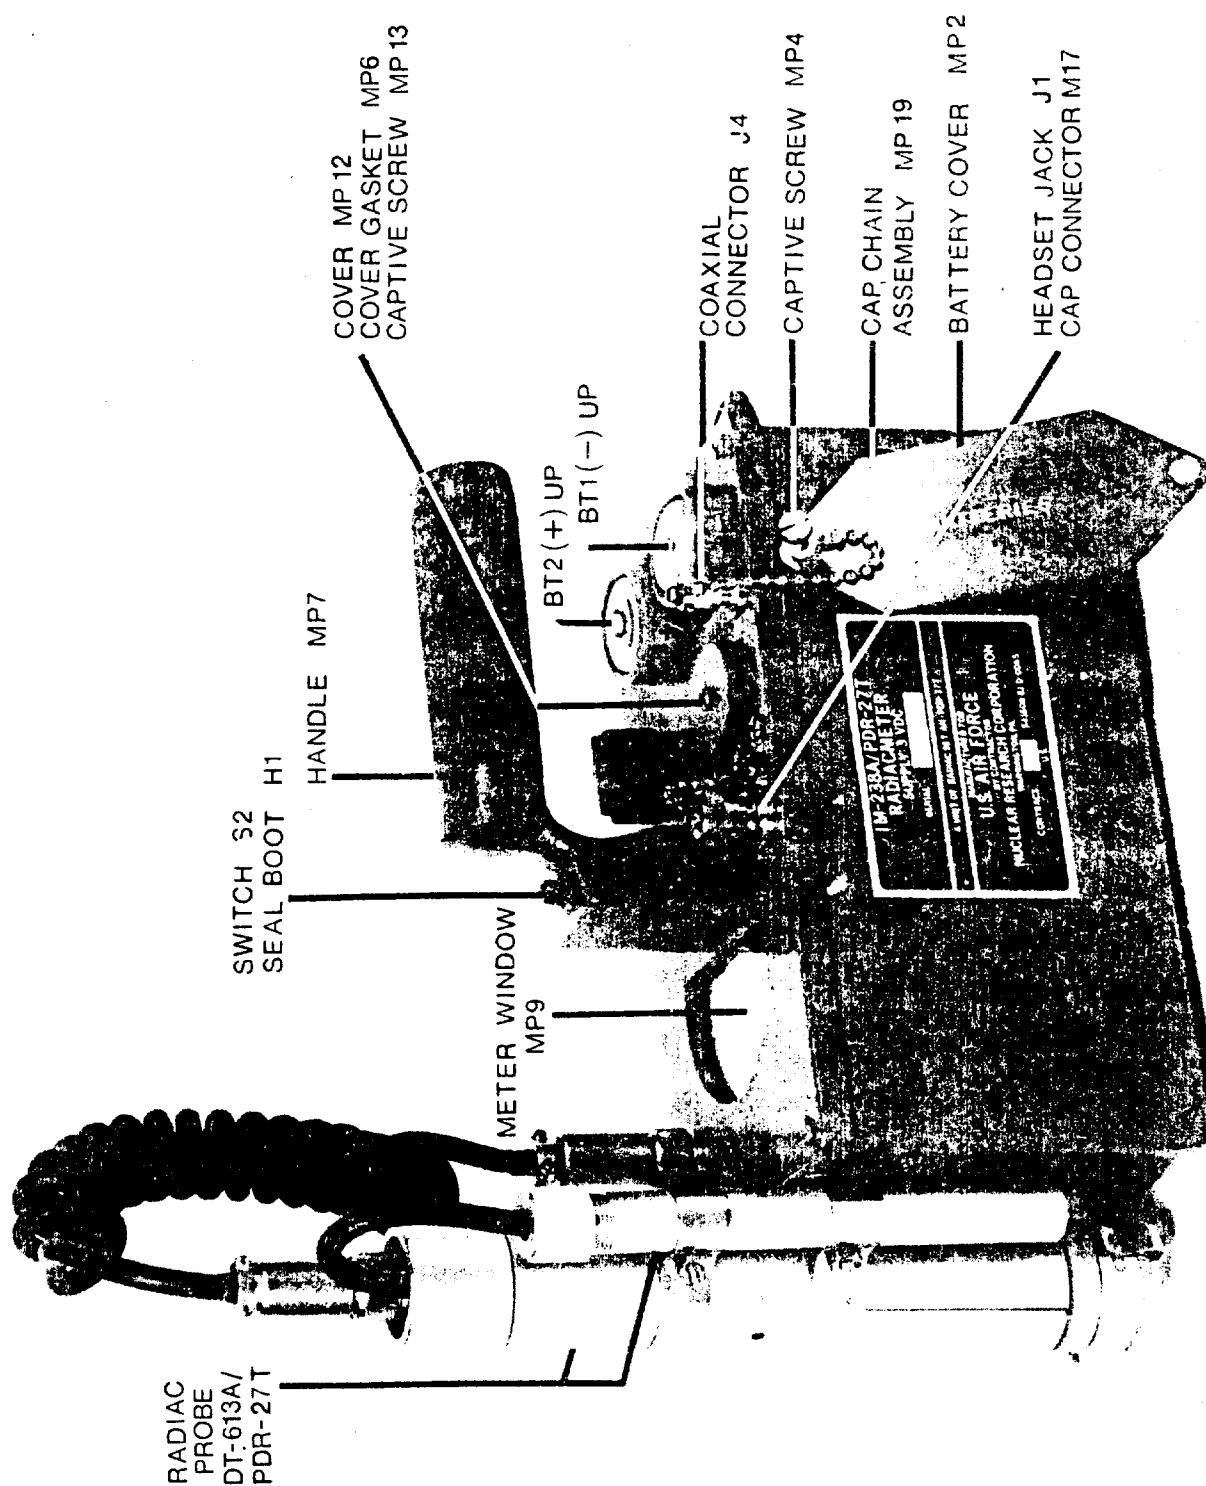

FIGURE 4-2. BATTERY INSTALLATION
STEP 3. Loosen battery cover screws, remove battery cover and insert batteries (BA-30, 1½ volt "D" Cell). Observe polarity markings on the top of the front panel under the battery cover (See Figure 4-2). Replace cover and tighten screws. (For use of Arctic Battery Kit, see Paragraph 4-5).